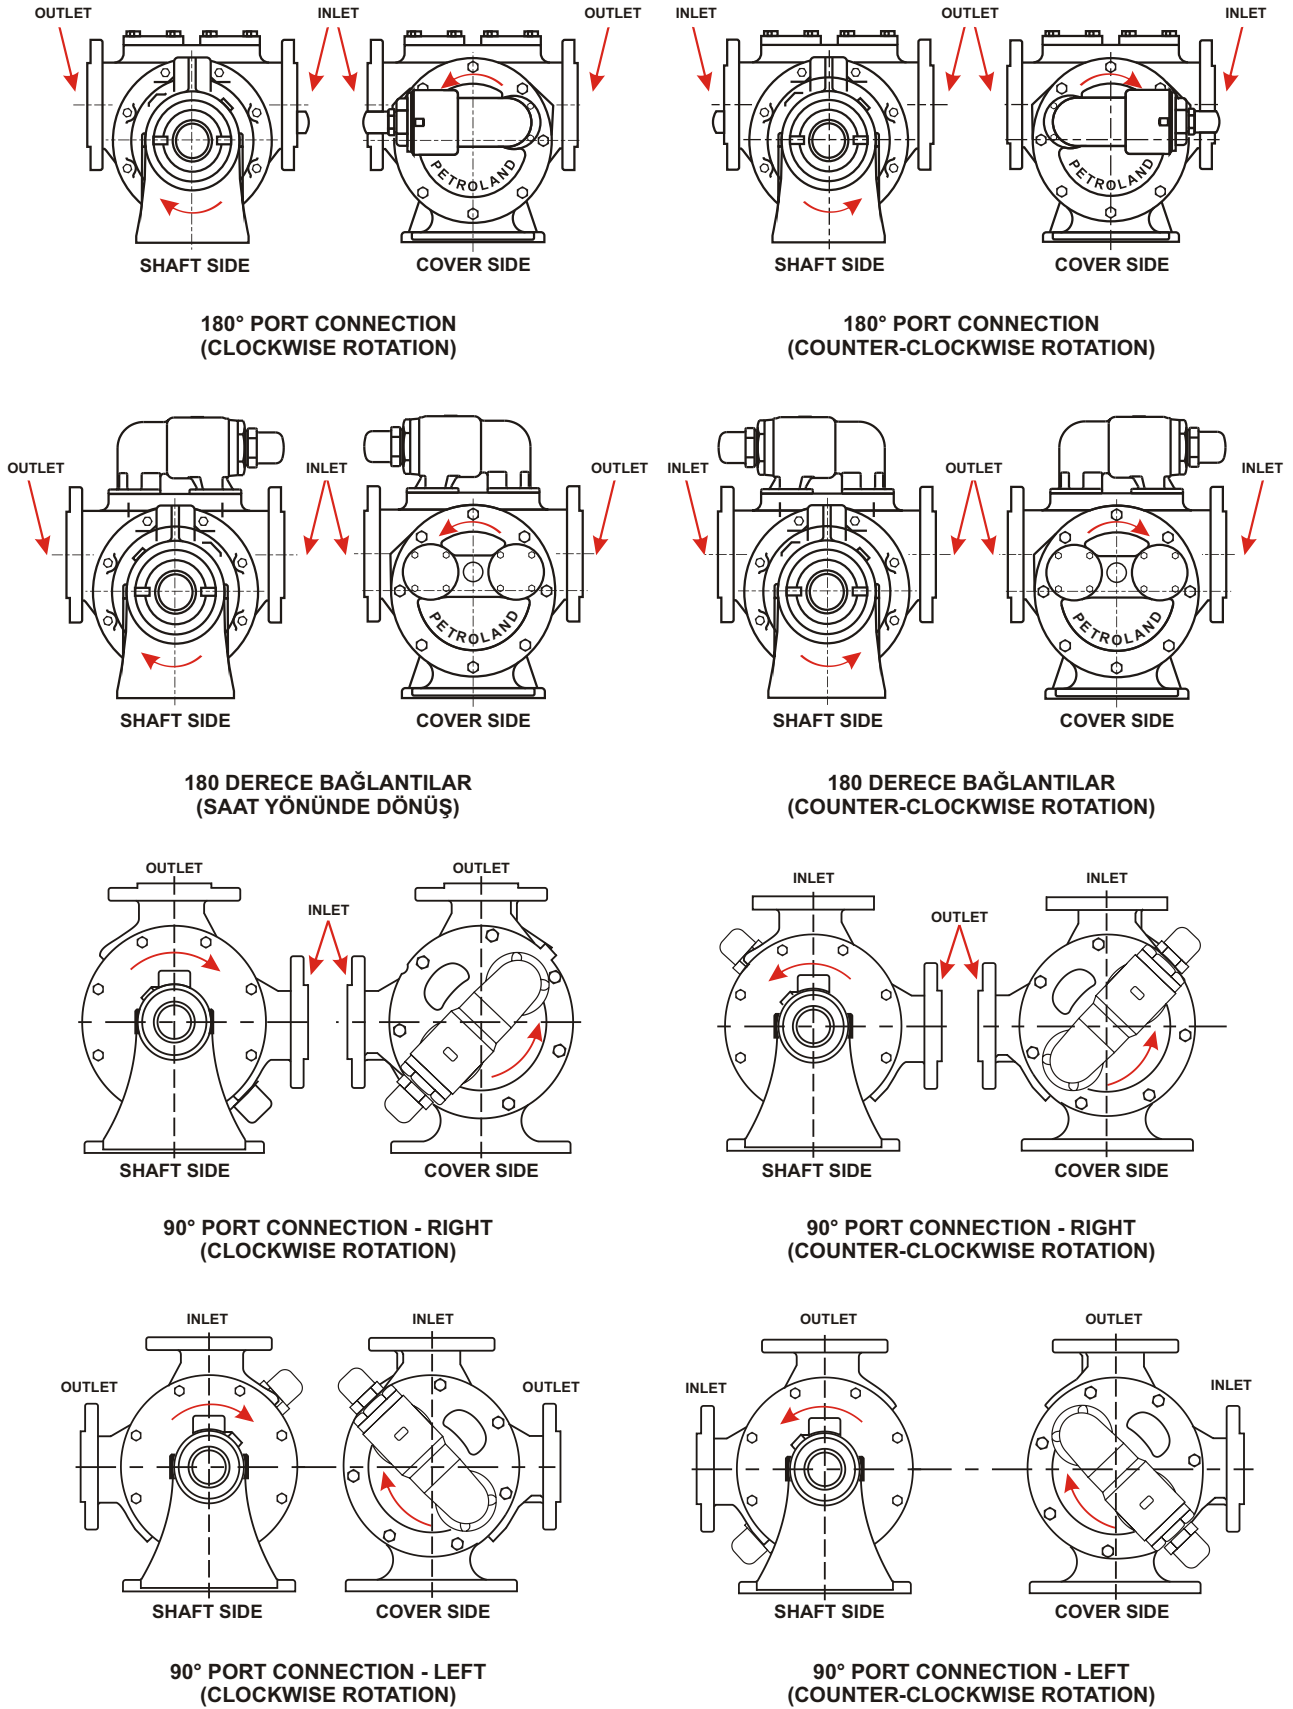

Figure 17: Directions of suction / discharge and by-pass valve accordance with direction of rotation
• That any by-pass valve is fitted correctly. (See Figure 17)
• That the direction of rotation is correct. (See Figure 17)